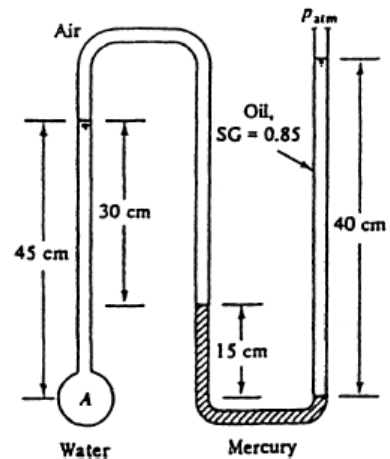

Fig. P2.45
2.45 Determine the gage pressure at point A in Fig. P2.45, in pascals. Is it higher or lower than $P_{\text{atmosphere}}$?